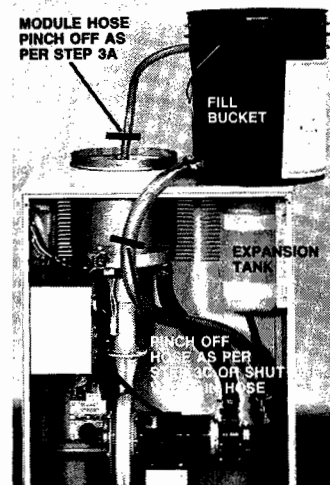

FIGURE 13
2. Install (Fig. 13)
4. **Fill Bucket** (Fig. 13) with required solution (See chart 1) and continue to add solution as required to maintain liquid seal at bucket outlet.